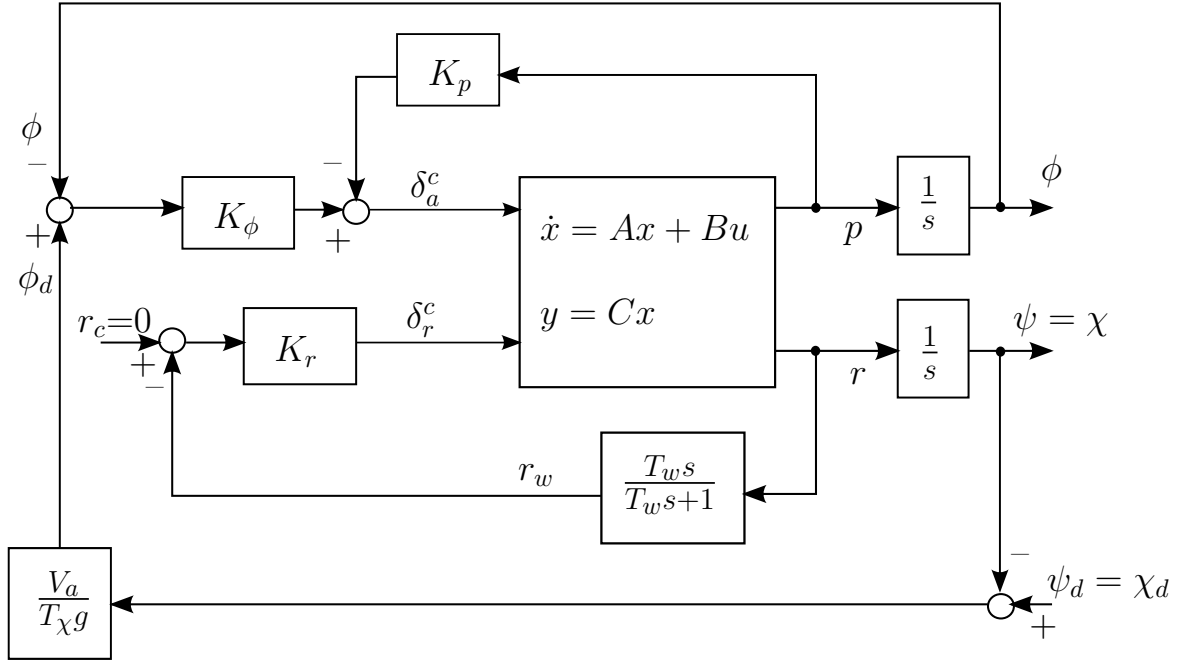

Figure 2: MIMO lateral autopilot using inner-loop yaw damper.
We are going to improve the autopilot design by designing a MIMO controller, represented in Fig. 2. The idea is to design a yaw damper that uses feedback from the washout filter instead of the yaw rate such that only high-frequency rudder commands δ_r^c contribute to damping, while the aileron control δ_a^c will be designed for course hold. A yaw damper is a system that attempts to remove the yaw rate that inevitably results from a turn, as a consequence of the Dutch roll mode.
1. Consider the yaw damper (inner loop in Figure 2):